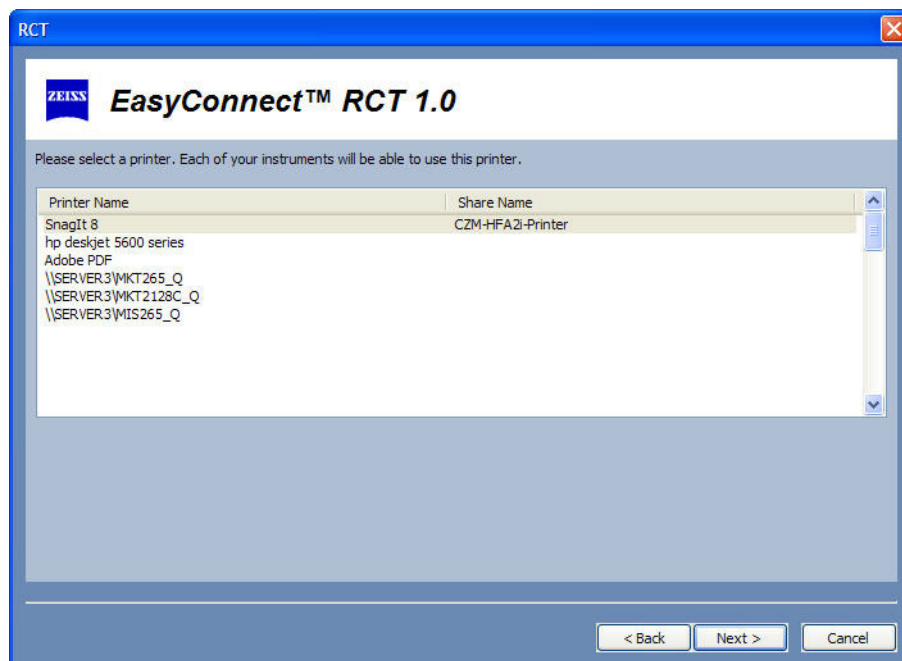

Figure G.31 Select a Printer to Share
- 7 If you previously selected a shared printer type of HFA setup, select a printer you want to share from the list of printers connected to the computer (Figure G.31). The first printer is selected by default.